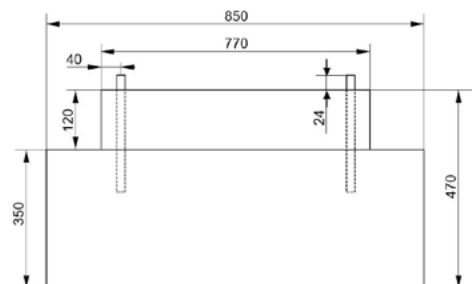
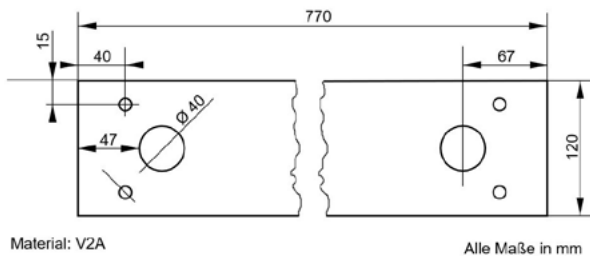

Figure 1: Prefabricated foundation - side view
Figure 4: Foundation plate - top view
In the simplest case, use our prefabricated foundation. This significantly simplifies the mounting of the charging column. In this prefabricated foundation two empty pipes and the foundation plate with four threaded rods are already cast. The shape of the prefabricated foundation may differ from the shape in Figures 1 and 2. The shape and dimensions of the foundation plate, which you can see in Figure 4, are decisive.
2. Position and fix the empty pipes in the correct place. The distances between the empty pipes can be found in Figure 4: Foundation plate - top view.